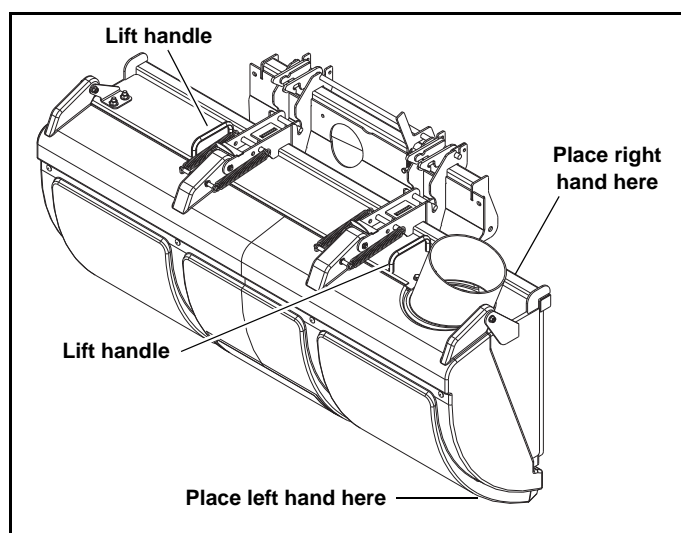

Figure 3-9
2. Lift the hood assembly using the lift handles. Figure 3-9
4. Place your hands on the hood assembly as indicated in Figure 3-9. By lifting with your left hand and pushing down with your right hand, pivot the lid assembly up 90° and over until the upper pins latch in the upper hood